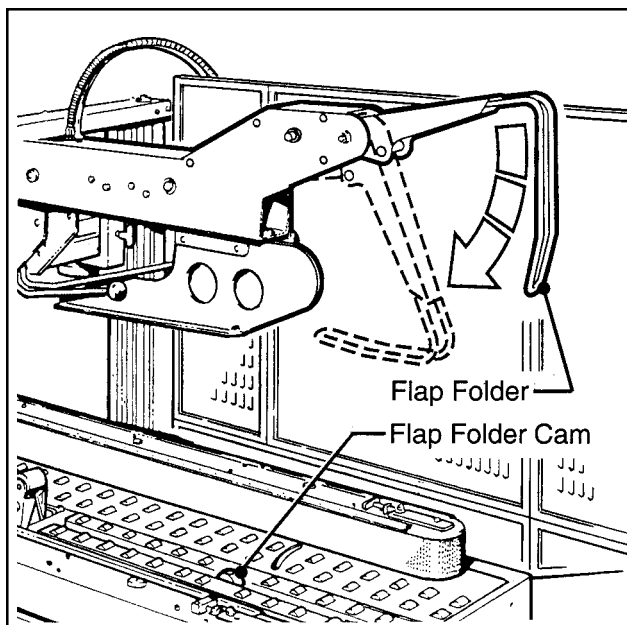

Figure 3-4 – Flap Folder
5. Keep away from flap folder. Flap folder is controlled by air and can be activated (if air supply is "On") by depressing flap folder cam. See Figure 3-4. Be sure flap folder is in the down position before servicing.
2. **Wait for flap folder to reach down position as shown in Figure 3-4, to avoid being hit or startled by its movement**